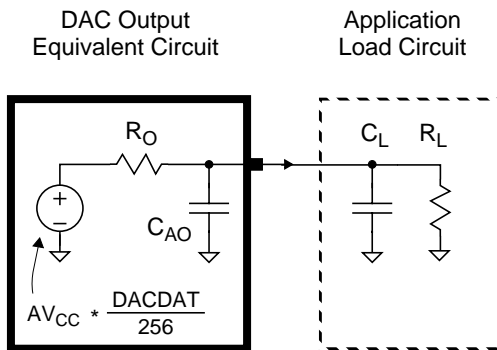

Figure 17-3. DAC Output Equivalent Circuit
The DAC output settling time depends on the external load characteristics and the required accuracy. Figure 17-3 shows the equivalent circuit used for evaluating DAC behavior. Each DAC output has a typical output impedance of 3 KΩ. For example, if the total load is a 50 pF capacitor only, the output settles to 1/2 LSB within 1 µs. The total load capacitance is comprised of the analog output capacitance (CAO) and the external load capacitance (CL).